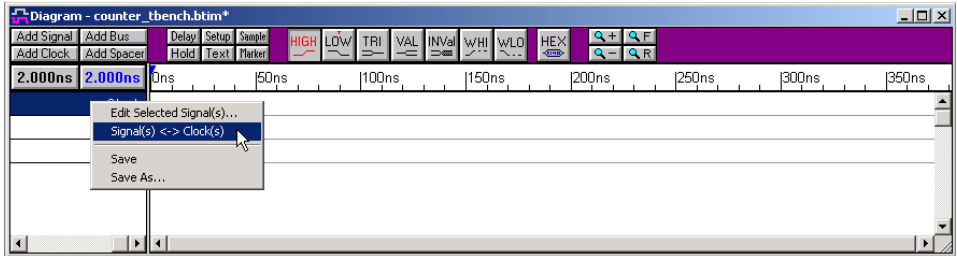

Figure 3-12. Create Clock Signal in WaveFormer Lite
1. Right-click the **Clock** signal to select it. Select **Signal(s) <-> Clock(s)** to create the clock signal (Figure 3-12).